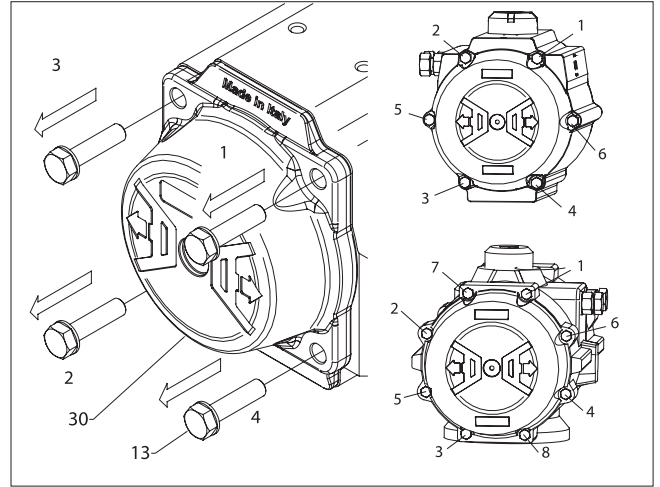

Figure 5.
- B. Remove stop screw o-rings (11) and discard if replacing all soft parts.
3. End Cap (30) Disassembly, (Figure 5):
- A. Remove the end cap bolts (13) in the sequence shown in (Figure 5).